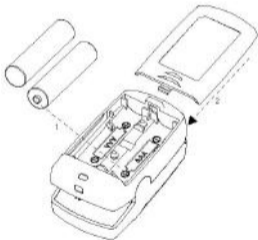

Figure 3 Battery Installation
1. Refer to Figure 3, insert two AAA size batteries into the battery compartment properly, and
1. Open the clip as shown in figure 3.